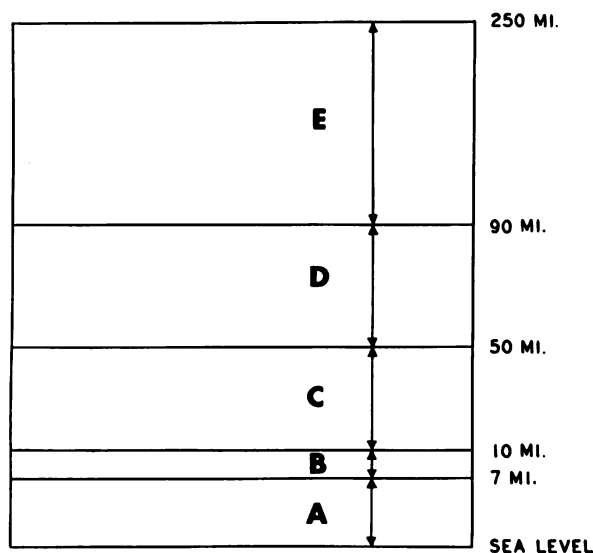

Figure 1A.—Diagram representing the atmosphere divided into regions.
27. If the air density at the bottom of region A in figure 1A is approximately 0.075 pounds per cubic foot, what is the density at the top of region A?
28. Because of the continuously decreasing air density, the drag on a rising missile decreases. The decrease in drag per unit change in altitude is greatest in the region of figure 1A labeled
1. top of region A in figure 1A
2. middle of region A in figure 1A
3. middle of region B in figure 1A
4. top of region C in figure 1A
30. The temperature remains fairly constant in the region of figure 1A labeled
31. If the air temperature at sea level is 30° F., the air temperature in the middle of region A in figure 1A is about